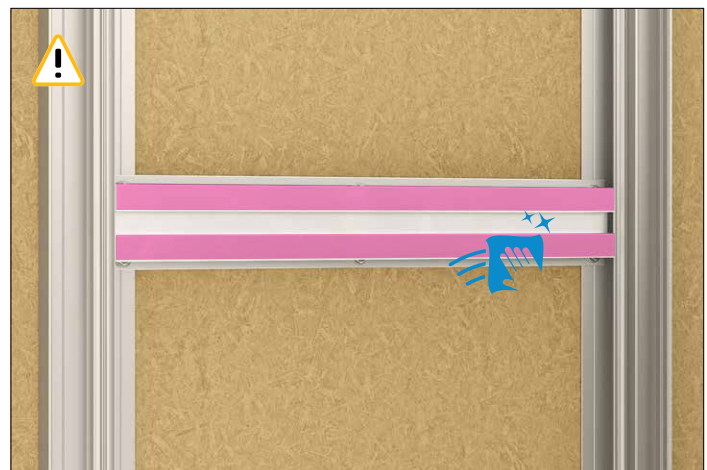

Figure 4
- 4 Apply primer to the top surface with WypAll wipers (Figure 4).